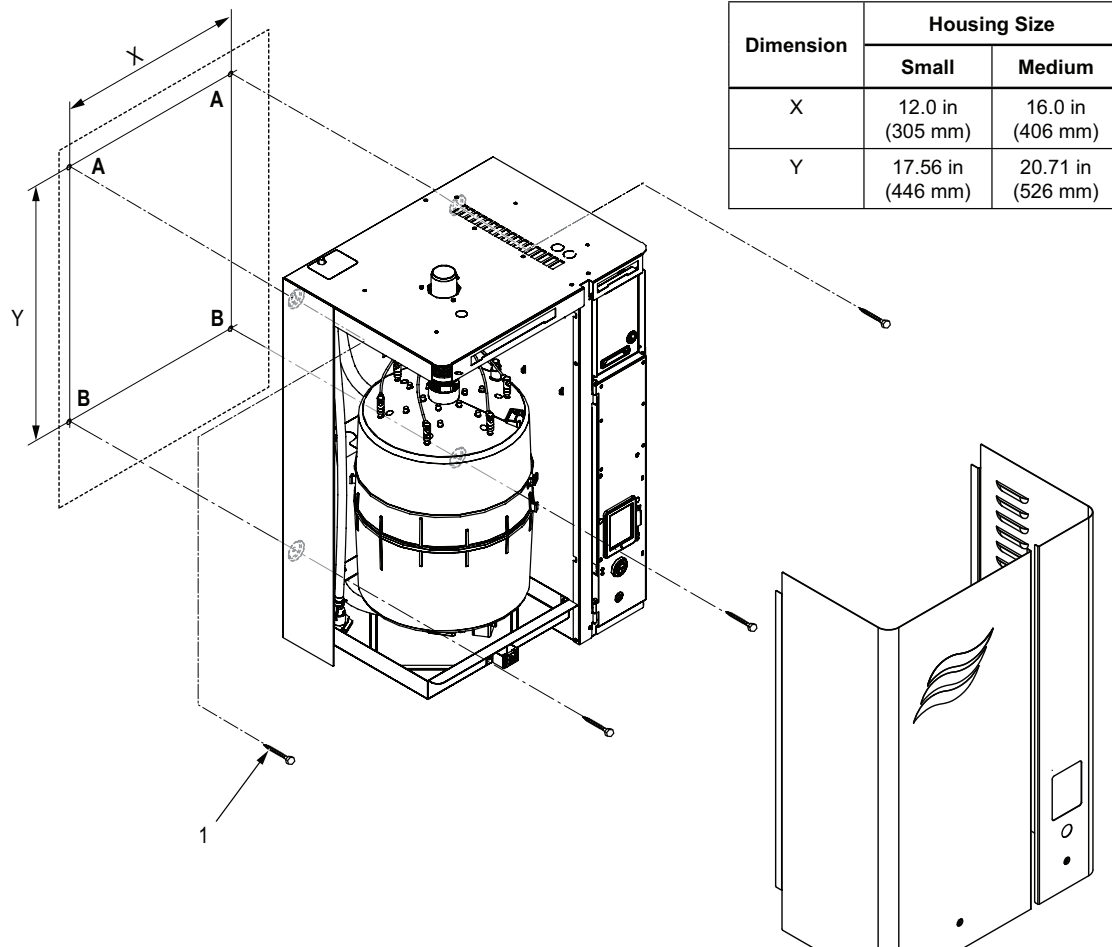
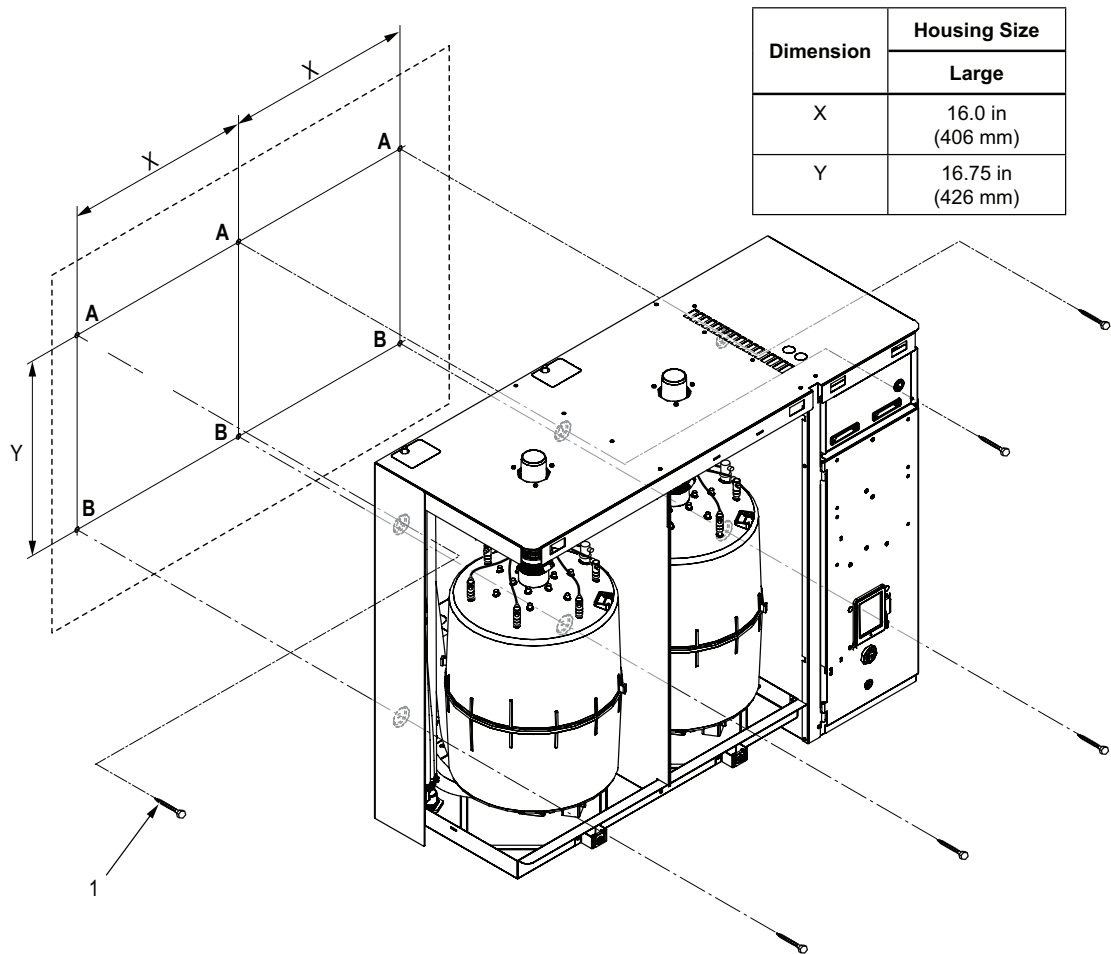

Figure 7: Standard Mounting, Small or Medium Housing
Figure 8: Standard Mounting, Large Housing
1. Locate 2×4 wooden studs or equivalent support in the mounting surface, and mark the attachment points "A" and "B" at the desired position with the help of a level. For small or medium housing refer to Figure 7. For large housing refer to Figure 8 on page 19.